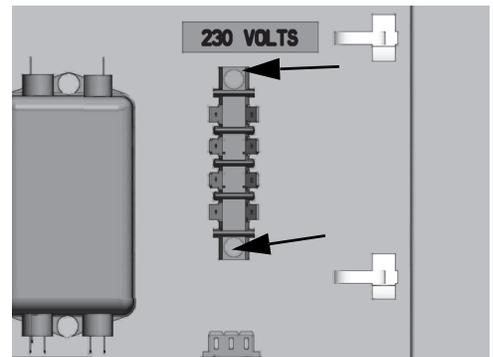

Figure 63.
9. Disconnect the wires connected to terminal block and remove the two screws as shown in Figure 63..